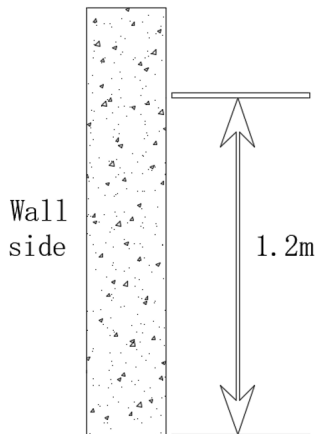

Figure A-3 Wall mounting height
1. Please confirm the installation location and mark it on the wall. It is suggested that the top height of charger should be about 1.2 meters from the ground, as shown in Figure A-3.